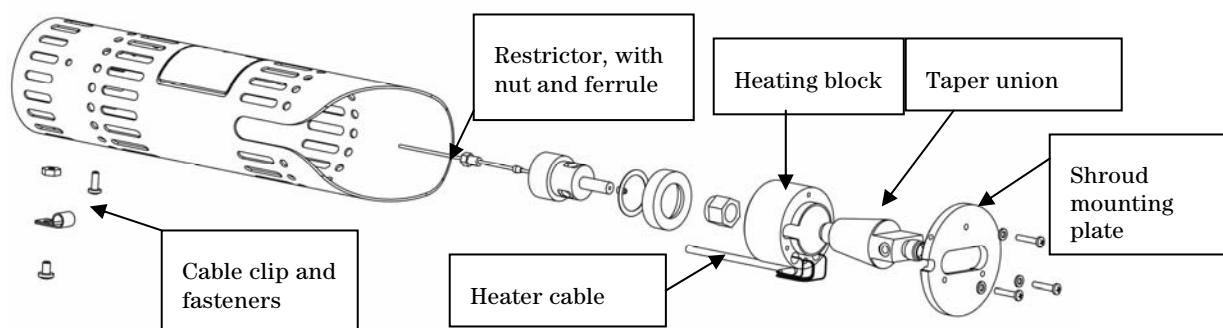
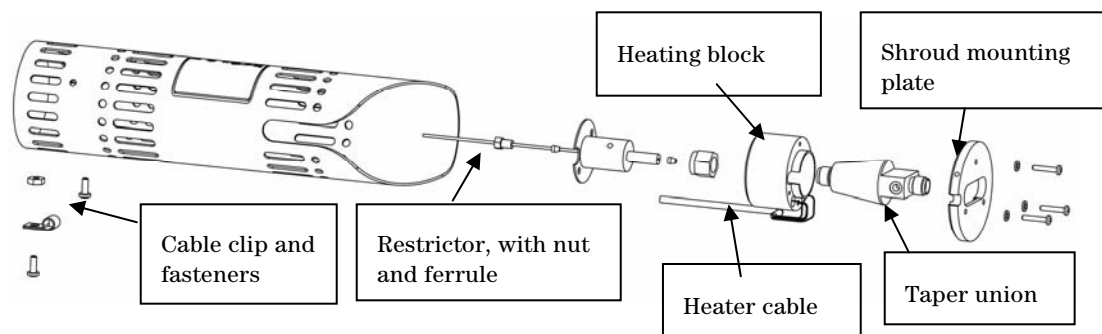
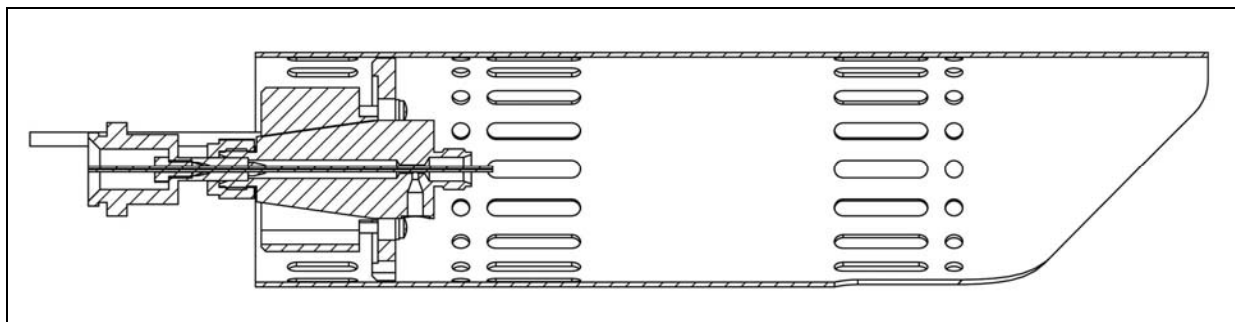

Figure 1 FID Adapter Assembly Order for Agilent 6850 And 6890 GCs
Figure 3 FID Adapter Assembly Order for Varian CP3800, 3500, or 3600 GCs
Figure 5 Cross-Section of Dual Plasma Burner Shroud with FID Adapter Assembly Order for Thermo Trace GC
2. Attach the FID adapter to the Dual Plasma Burner as indicated in the figures. If using an Agilent 6850 or 6890 GC, refer to Figures 1 and 2. If using a Varian CP3800, 3500, or 3600 GC, refer to Figures 3 and 4. If using a Thermo Trace, refer to Figures 5 and 6.